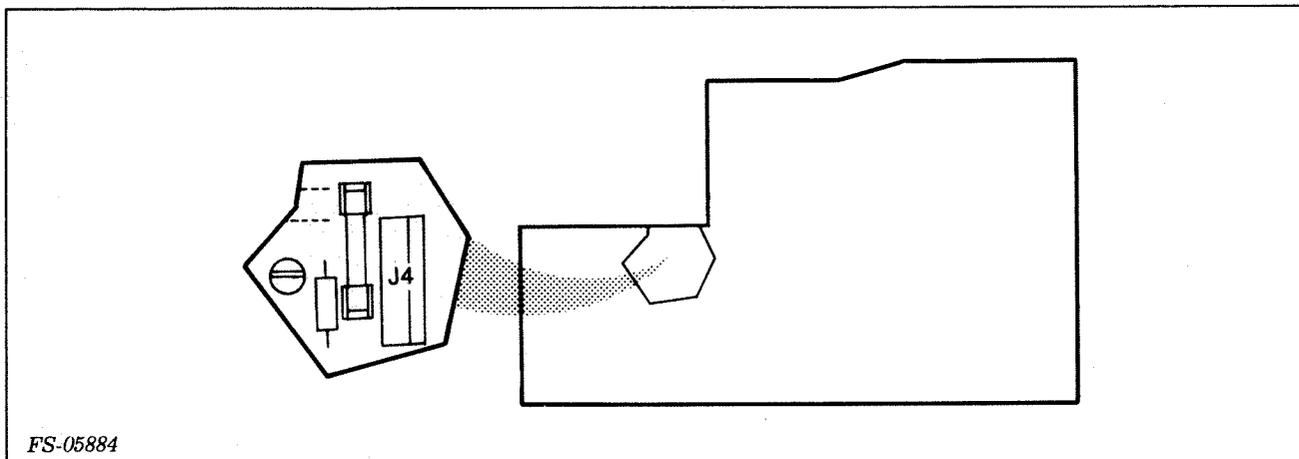

Figure 5-15. Power Supply PCB, Connector J4
3. Unplug the connector at J4 on the power supply PCB (see Figure 5-15).